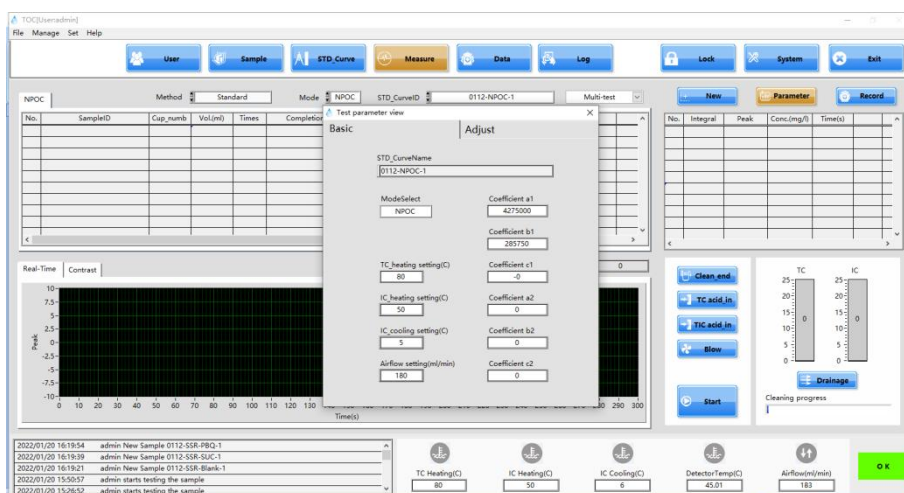

Fig 4.52
Step 1 Click  to enter the sample test interface. The software automatically presents the line used in the last test and a pop-up window displays the basic parameters of the line (Fig. 4.52).